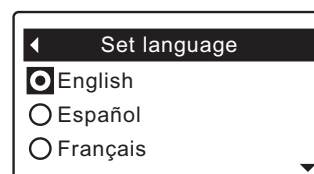

FIG. 56
4. The Set language menu is displayed (See Figure 56). The current language has a dot next to it.